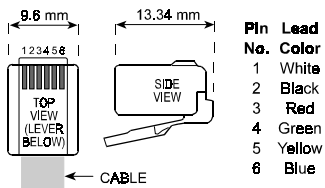

Figure 10. 6-pin RJ-11 Plug
All connections to the AUTOCOM-100 system can be made via the 6-position, telephone-type side-entry female connectors located at the rear panel of the unit. The 6-pin mating plug for these receptacles is designated RJ-11 and shown in Figure 10.
- An unspecified length of 6-lead, color coded modular cable (depending on the distance from the AUTOCOM-100 to the various peripheral devices and to the telephone line terminals). To prevent confusion, it should be crimped onto the RJ-11 plug with the white lead at position 1 and the blue lead at position 6 (see Figure 10).
- At the AUTOCOM-100 end, crimp the cable end onto an RJ-11 type connector with the white lead at position 1 and the blue lead at position 6 (see Figure 10).